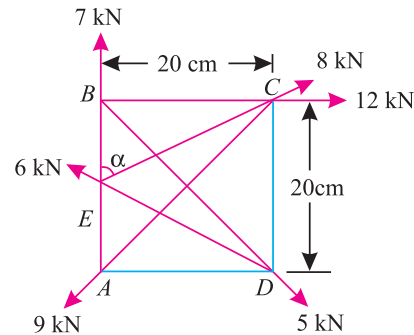

Fig. 3.13.
**Solution.** The system of the given forces is shown in Fig. 3.13